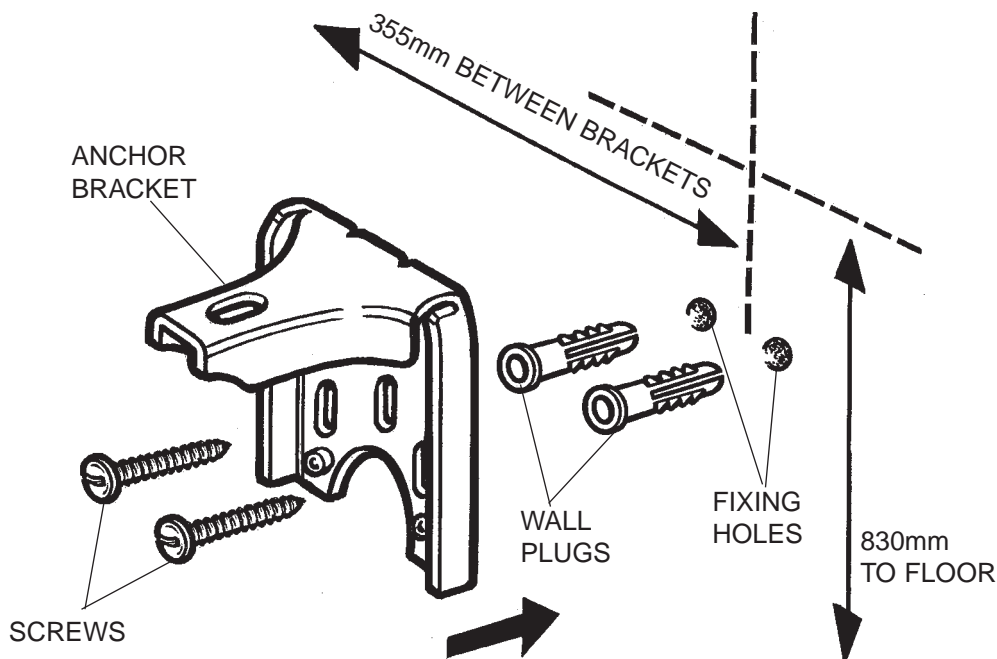

Figure 2 - fixing an anchor bracket
In order to eliminate the risk of the cooker falling forward, two chains have been installed at the rear of the cooker. Before use, these will need to be fastened securely to the wall behind the appliance with the anchor brackets supplied. (Figure 2):
1. Decide on a suitable wall location for the chain anchors, directly behind each cooker chain, at a height of 830mm from floor level. The distance between the two brackets should be 355mm, measured from the centre of each bracket. (Figure 2).
2. Hold the chain anchor up to the wall where it will be required, and mark the fixing holes. (Figure 2).